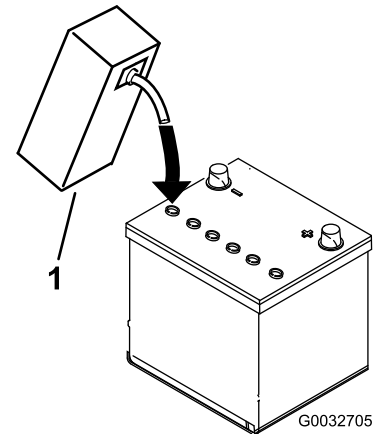

Figure 8
3. Carefully fill each cell with electrolyte until the plates are covered with about 6 mm (1/4 inch) of fluid (Figure 8).
4. Allow approximately 20 to 30 minutes for the electrolyte to soak into the plates. Fill as necessary to bring the electrolyte to within about 6 mm (1/4 inch) of the bottom of the fill well (Figure 8).